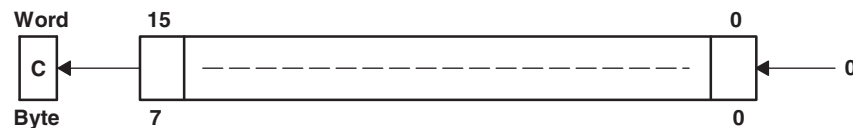

Figure 4-38. Destination Operand—Arithmetic Shift Left
Description	<p>The destination operand is shifted left one position as shown in Figure 4-38. The MSB is shifted into the carry bit (C) and the LSB is filled with 0. The RLA instruction acts as a signed multiplication by 2.</p> <p>An overflow occurs if $\text{dst} \geq 04000\text{h}$ and $\text{dst} < 0\text{C}000\text{h}$ before operation is performed; the result has changed sign.</p>